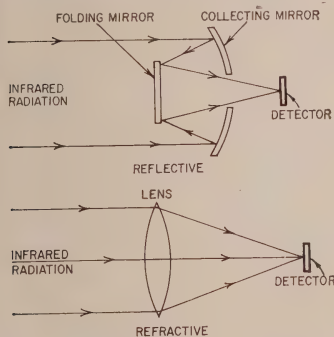

Fig. 3—Two basic optical systems, reflective and refractive.
Because a relatively small amount of infrared energy is emitted by a radiating object, an optical system is used in almost all radiometers to collect and focus the energy onto the infrared (IR) detector. These optical systems work in much the same way a magnifying glass does when we use it to focus sunlight onto a sheet of paper (causing the paper to char). Fig. 3 shows two types of systems of which there are many combinations and variations. To insure maximum efficiency, front-surfaced mirrors are used for all reflectors.